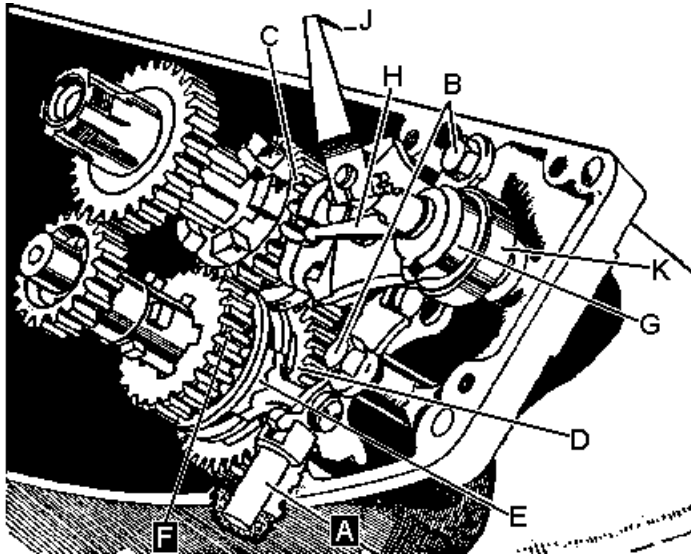

Fig. D16. *The Gear Cluster.*
Replace the spring-loaded ball socket (A) Fig. D16 in its recess in the bottom of the offside crankcase.
Now fit the gear quadrant selector mechanism to the offside crankcase. Engage the quadrant with the spring-loaded locating plunger in the bottom of the case, (A) Fig. D16, the quadrant to be at its innermost position in relation to the plunger; this is bottom gear. Secure in position by fitting the two bolts (B) with their tab locking washers, turning over the tabs to lock the bolts.
Insert the layshaft through the lower gears and engage the gear train (see Fig. D16).
The gearbox control shaft carries on its serrated end inside the case a gear selector claw (G) Fig. D16, part number 90-0190. This is held in position by a circlip, part number 90-0051, and fitted around the boss of this claw is a double-ended coil spring. This is housed inside a metal cover (K) part number 90-0054. The two ends of the spring fit one either side of a peg driven into the claw, and also pass over a projection on the bridge piece of the gear selector mechanism, thus acting as a centralizing device for the claw.
The end of the gear selector quadrant is located in a spring-loaded plunger, part number 90-0047, pressed into the bottom of the alloy case (A) Fig. D16.